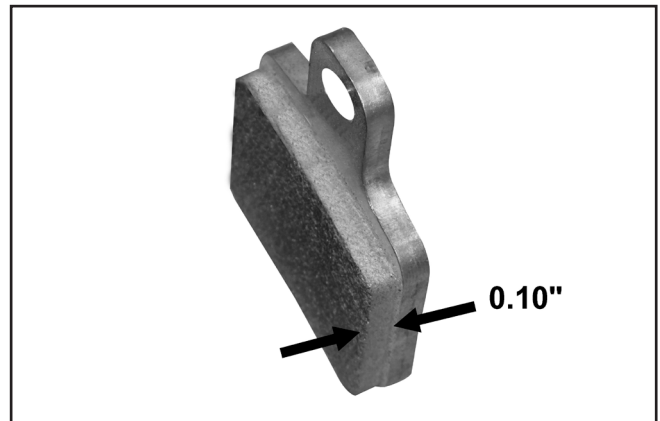

Figure 7-24. Brake pad wear, hydraulic brakes
- the brake lining material molded to each metal backing plate is worn to 0.10" thickness. (Figure 7-24).